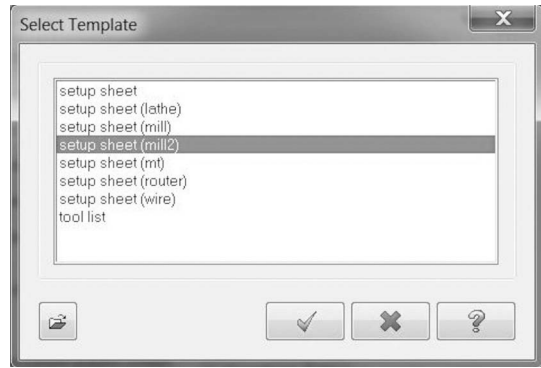

Figure 5-56 Setup Sheet Template Styles
- Multiple style options are available for the type of setup sheet output (Figure 5-56). In the Report Templates section of the Setup Sheet dialog, highlight the report listed and press F2. Select from the list. Experiment with the options and choose the one best suited to your needs.